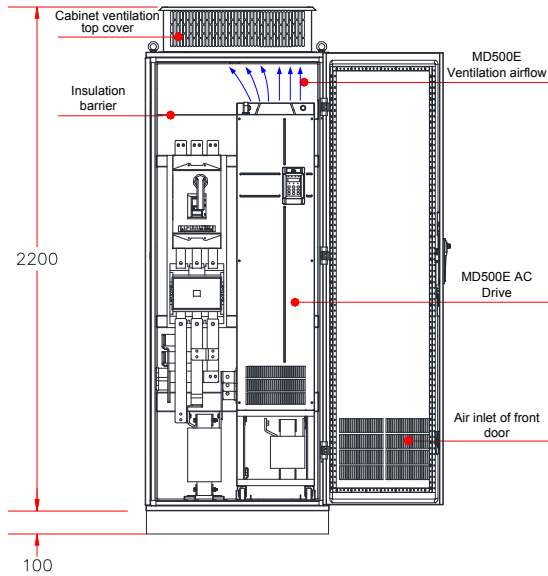
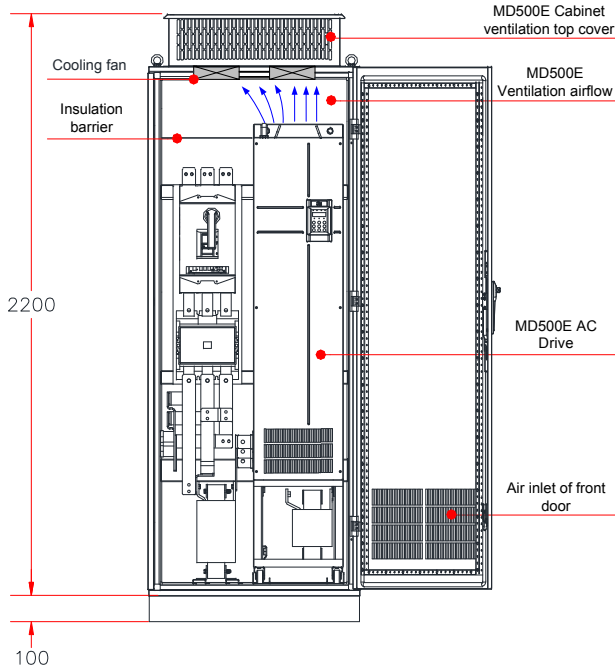

Figure 3-11 Direct discharging cabinet
Figure 3-12 Cabinet with fan on the top
- ◆ Refer to Figure 3-3 for mounting clearance requirements. Ensure there is sufficient space allowing for efficient heat dissipation of the drive and the other devices in the cabinet, as shown in Figure 3-11 and Figure 3-12.